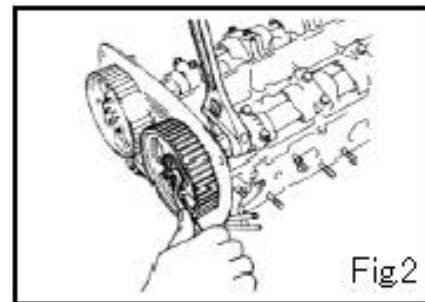

Fig2
- Hold the hexagon wrench head portion of the camshaft with a wrench, and loosen the pulley bolt. (See Fig.2)
- Hold the camshaft's hexagonal section (to prevent cam movement); then tighten the cam pulley bolt. (See Fig.2)